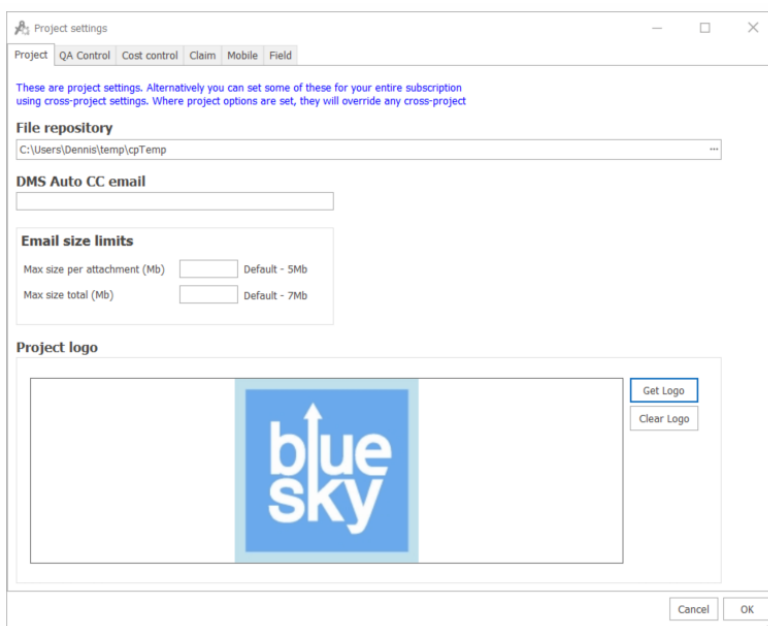

Figure 62 Adding a logo in project settings
4. Find your logo (ideally saved in the Project File Repository just selected) and double click on the file. This will bring it up in the Project Logo screen as in Figure 62